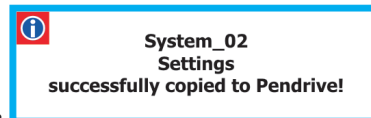

Fig. 78
- A confirmation message is displayed once saving is completed (Fig. 78). Press **ESC**.